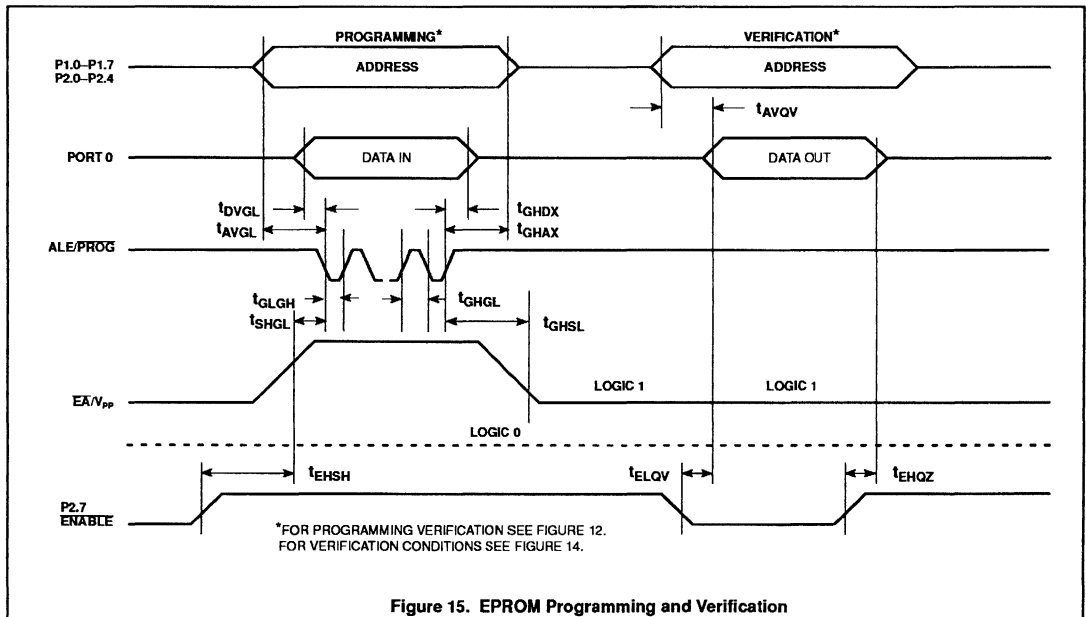

Figure 15. EPROM Programming and Verification
**EPROM PROGRAMMING AND VERIFICATION CHARACTERISTICS** $T_{amb} = 21^{\circ}\text{C}$  to  $+27^{\circ}\text{C}$ ,  $V_{CC} = 5\text{V} \pm 10\%$ ,  $V_{SS} = 0\text{V}$  (See Figure 15)